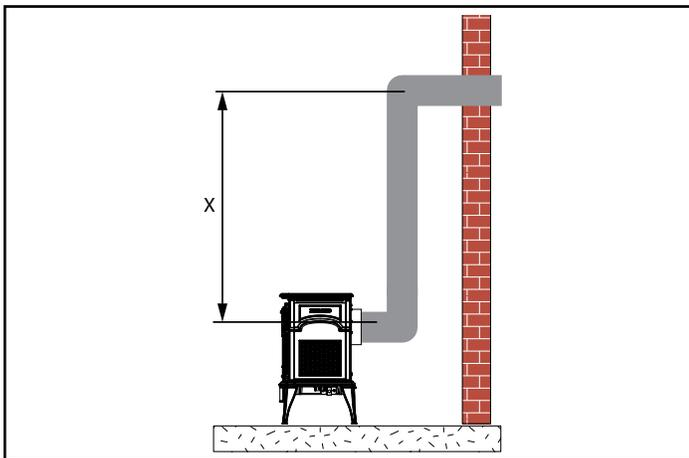

Figure 3.11 - Vertical Height Requirements
- Place stove into position. Measure the vertical height (X) required from the base of the flue collars to the center of the wall opening, Figure 3.11.